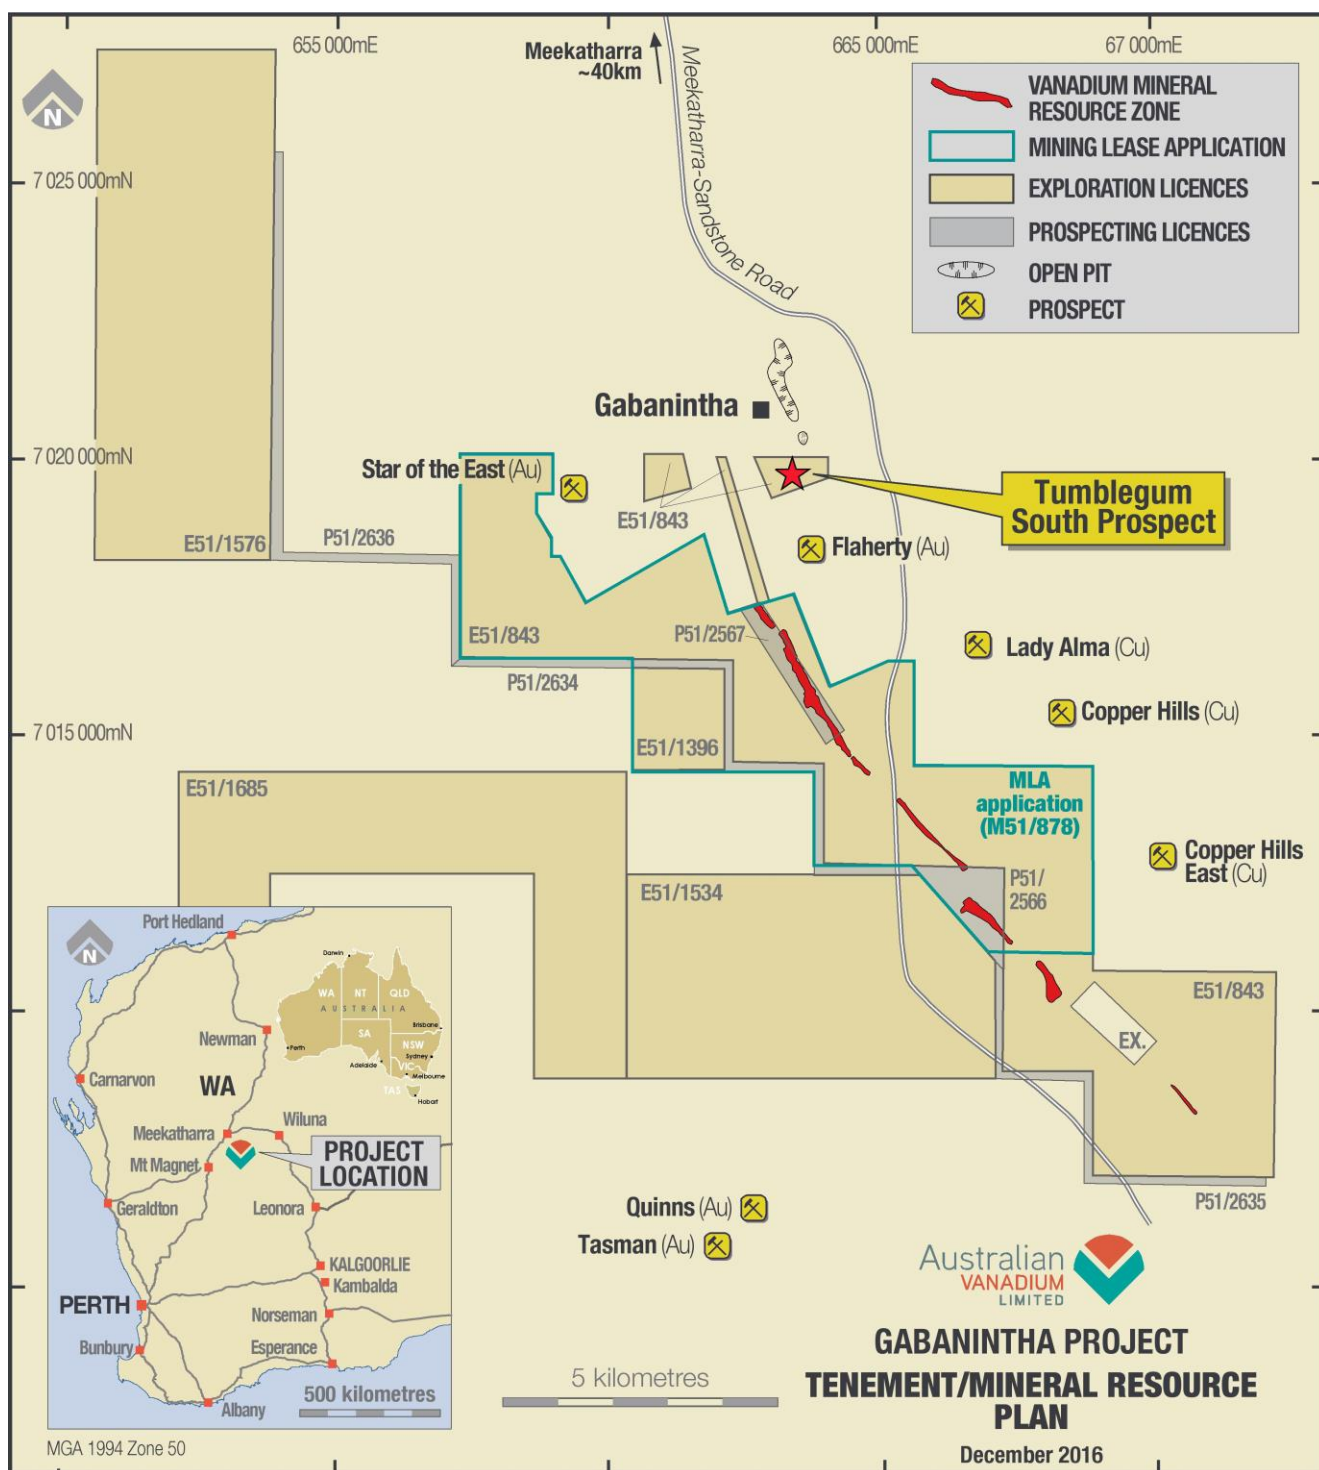

Figure 2 – Gabanintha Location Map
The Gabanintha Project is located 40km south of Meekatharra in Western Australia (see Figure 2). AVL announced in 2013 (*YRR ASX announcement dated 27th November 2013*) that it had received highly encouraging results from three reverse circulation (RC) drill holes drilled into the northern sector of the Gabanintha tenements. The drilling was carried out at the Tumblegum South Prospect (see Figure 2 and 3). The best results were: